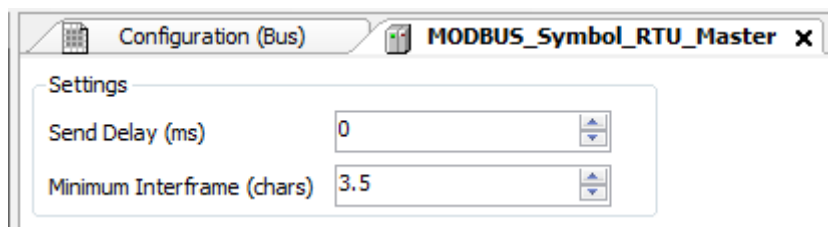

Figure 43: MODBUS RTU Master Configuration Screen
- Configure the general parameters of the MODBUS Master protocol, like: transmission delay times and minimum interframe as in Figure 43.